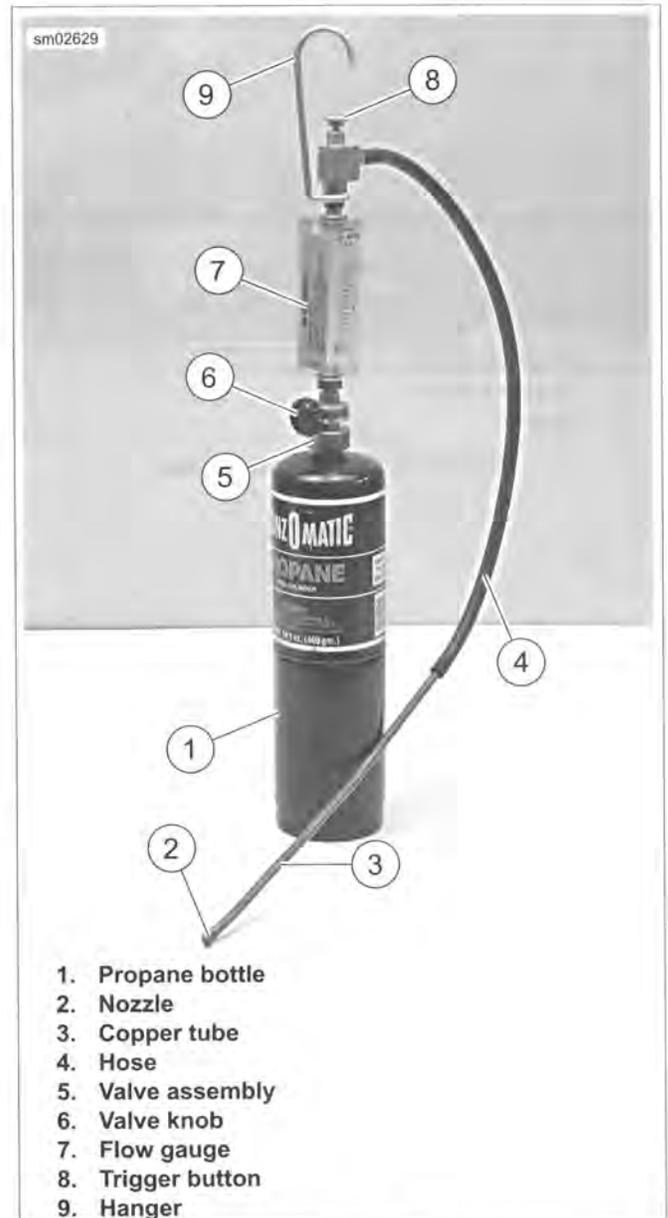

Figure 4-4. Leak Tester
1. See Figure 4-4. Make sure valve knob (6) is closed (fully clockwise).
2. Screw valve assembly (5) onto propane bottle (1).
1. See Figure 4-4. Press and hold trigger button (8).
2. Slowly open valve knob (6) until pellet in flow gauge (7) rises 5-10 SCFH on gauge.